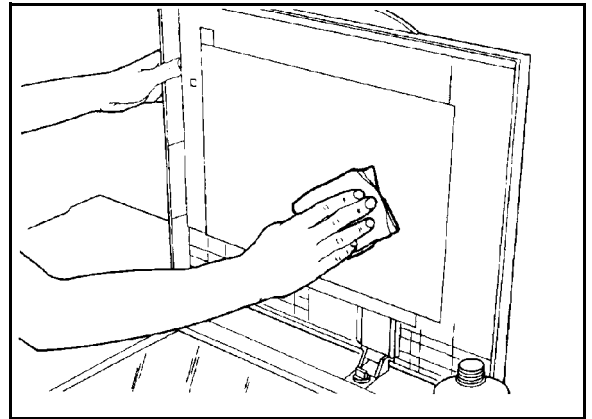

Figure 4: Cleaning the Document Glass Cover
- 3 Wipe the underside of the Document Glass Cover until it is clean and dry, as illustrated in Figure 4.